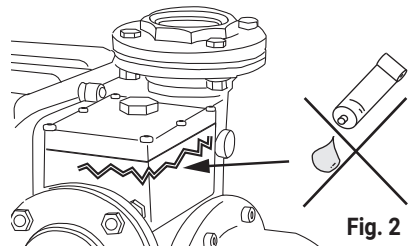

Fig. 2
6. Regular maintenance requires to open the prime cover in order to access the check valve. DO NOT apply any bonded material (such as silicon, glue etc) to seal the chamber cover (See Fig.2).